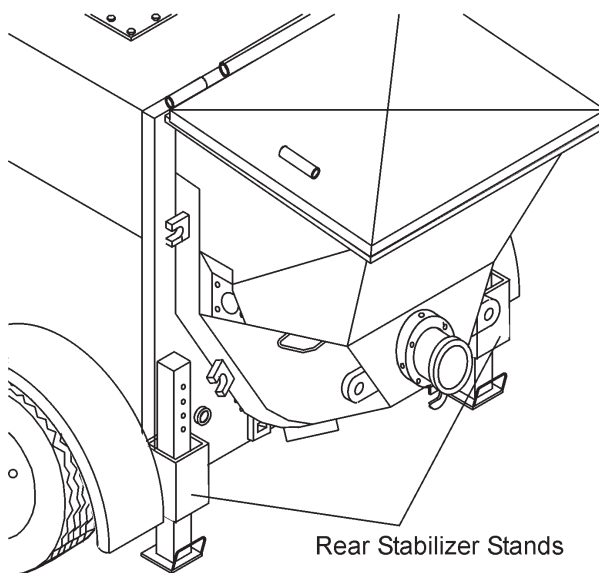

Figure 16. Locatiing Rear Stabilizer Stands
15. Locate both the left and right rear stabilizer stands (Figure 16).